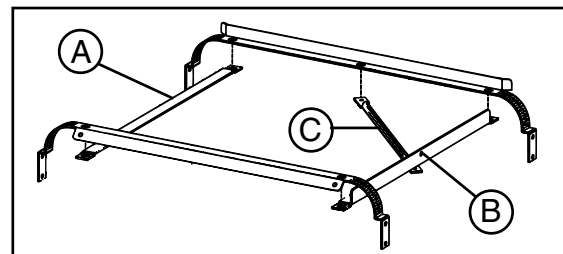

Figure 3b
2. Move front rack guide (A) to the left side of the rack tracks. (See Fig. 3b) Use existing hardware.
3. Unbolt the track (B) and rack support rod (C).
5. Bolt (B) and (C) as shown in Fig. 3b.